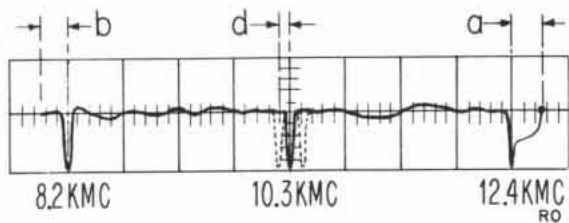

Figure 4-10. Calibration Pips on CRO Sweep (Linearity)
NOTE: R244 and R246 interact (see figure 4-10).
10) Adjust length of X-band with vernier of horizontal cro amplifier to 8 cm (see figure 4-10).